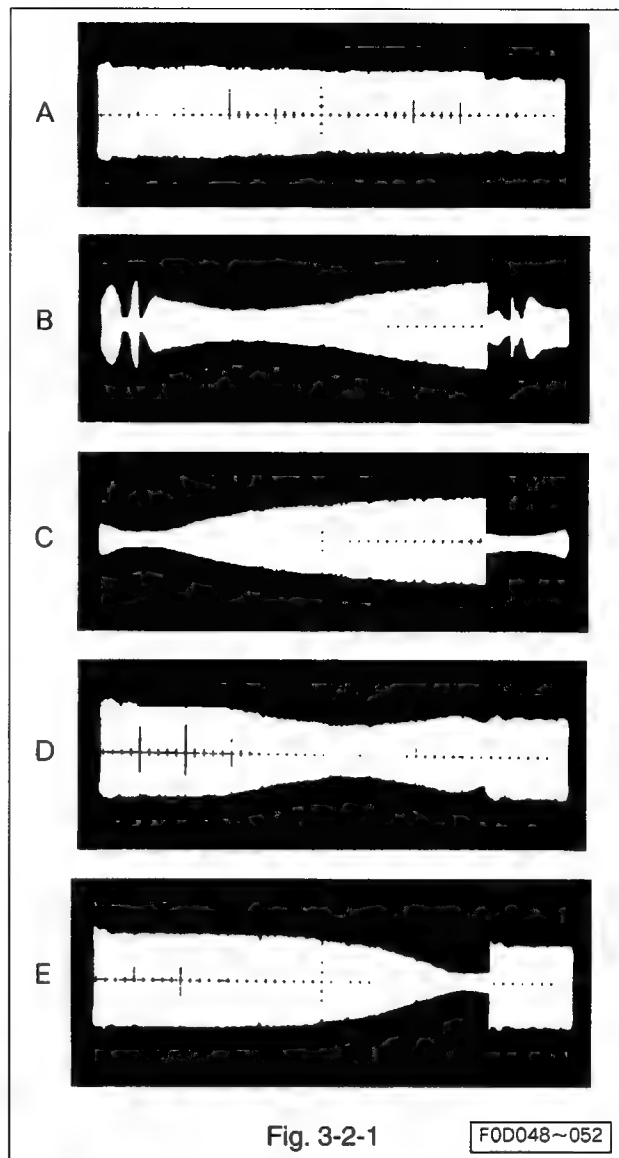

Fig. 3-2-1
3-2-1 Guide Roller Adjustment(Refer to Fig. 3-2-1.)
- C. Check if the FM waveform is flat like A shown in Fig. 3-2-1.
3-2-2 Adjustment of Supply Guide Roller Height (Refer to Fig. 3-2-1, 3-2-2.)
3-2-3 Adjustment of Takeup Guide Roller Height (Refer to Fig. 3-2-1, 3-2-2.)